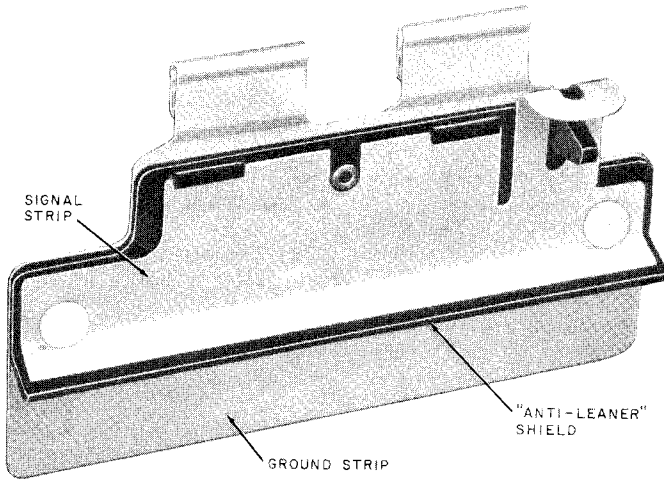

Fig. 2—D-180110 Kit of Parts
- (b) One D-180110 Kit of Parts (Fig. 2) is required to modify each coin box. The kit consists of a dual element sensor which clamps to the rear of the coin box.